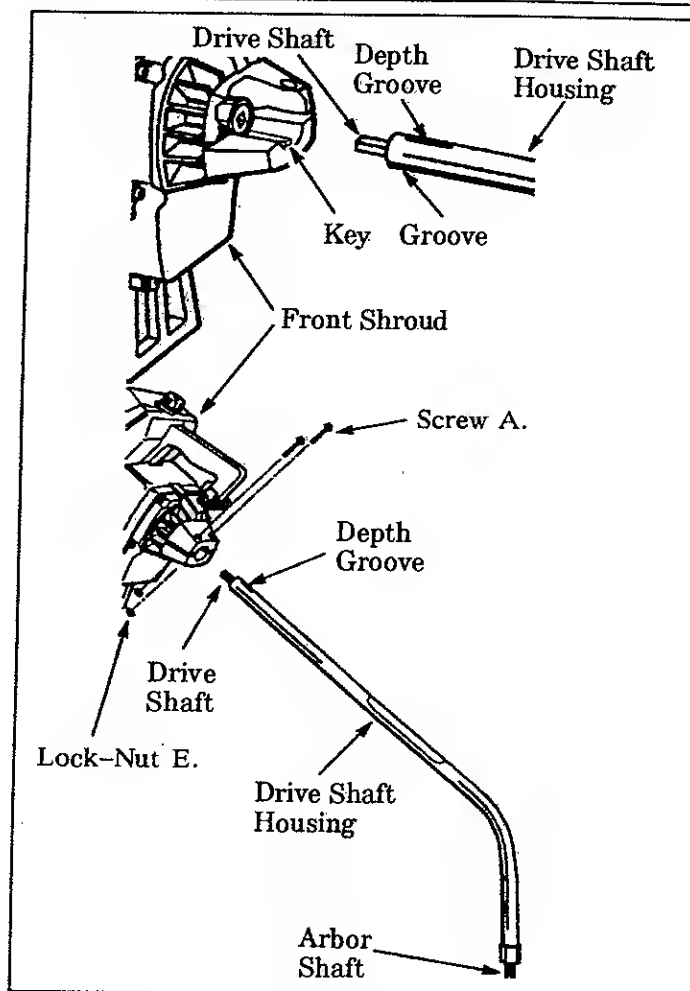

Figure 2
### 1. DRIVE SHAFT HOUSING (Figure 2)
- Place the two Screws "A." into the holes on the Front Shroud as shown in Figure 2.
- Firmly push the Drive Shaft Housing into the Front Shroud opening until the Depth Groove is no longer visible (about 1-1/2 inches). Figure 2.
- Tighten Screws "A." alternately with the small hex wrench until secure. Figure 2.